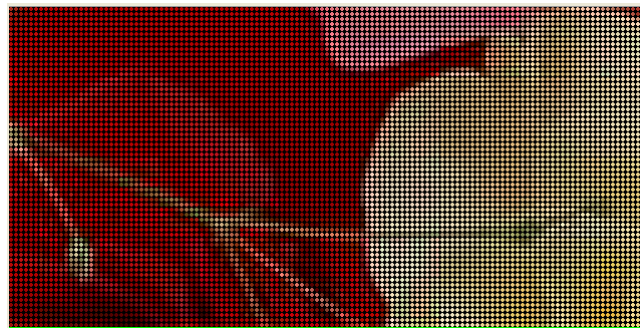

Fig. 2.12 Picture in the Editing area
After inserting a picture, we can see it in the editing area, as shown in Fig 2.12. Only the upper part of the picture can be seen. This is because the resolution of the picture is 96(H) X 128(L) pixels, while the sign is only 64(H) X 128(L).